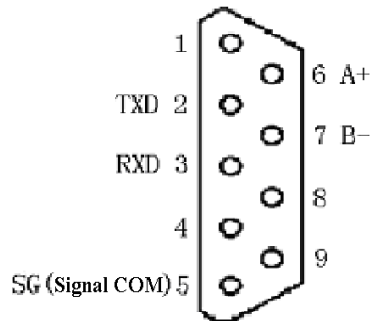

Figure4. 9-pin Standard D-Sub socket
4.5 Serial communication connection (Figure 4)
Please connect pin 2(TXD), pin 3(RXD) and pin 5(SG) of the 9-D connector in figure 4 to RXD, TXD and Signal COM of the standard RS232 serial port of the Master;
Please connect pin 6(A+) , pin 7(B-) in figure 4 to pin(A+), pin(B-) of standard RS485 serial port.